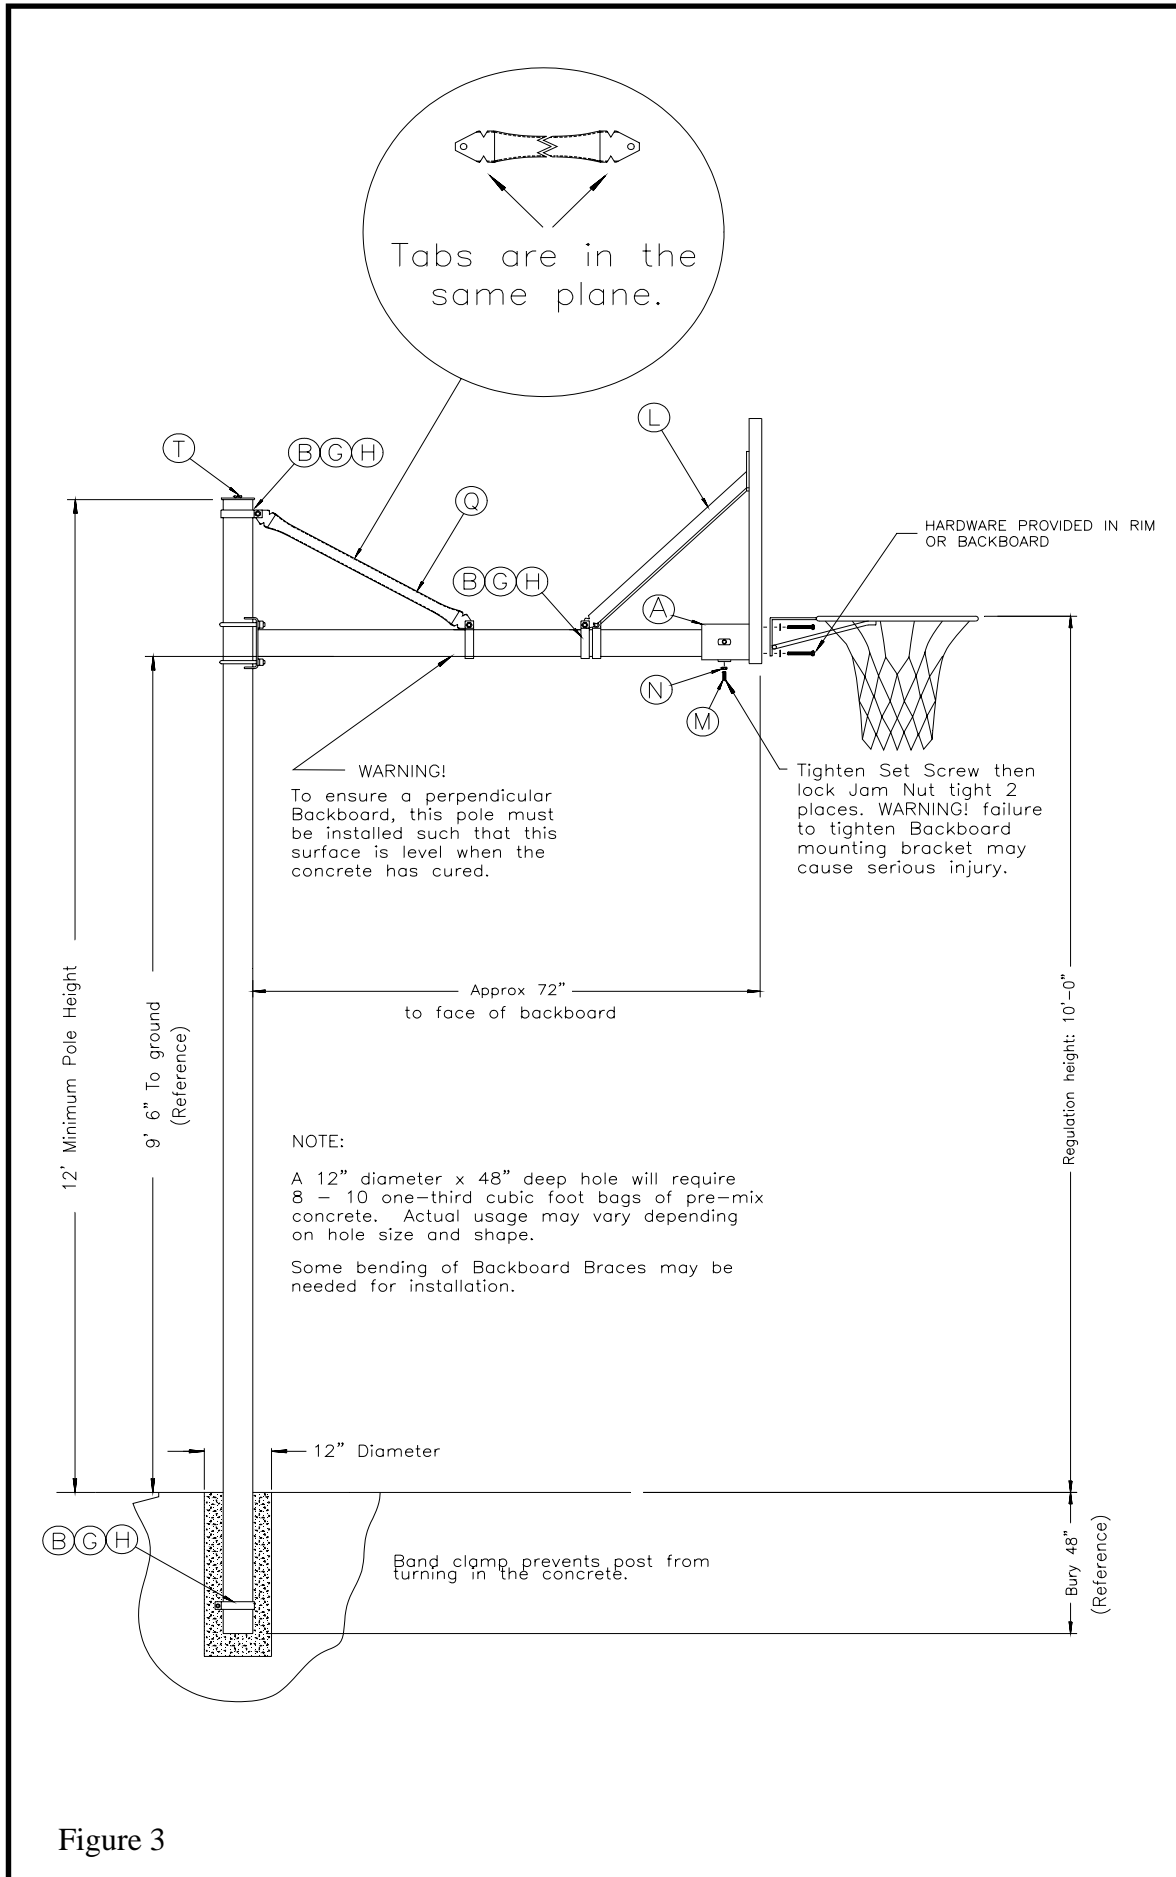

Figure 3
4. Clean excess concrete from *Pole* (R). Level the *Pole* (R) in the hole and allow the footing to cure for seven (7) days. Only after the concrete has cured for seven days should you proceed.
5. Seven days have passed. Insert the *Pole Plug* (T). **See Figure 3.** Secure the *Extension Arm* (S) to the *Pole* at a distance of 9' 6" from the bottom of the arm to the playing surface with the 5-9/16" *U-bolts and Hex Nuts* (P) and 1/2" *Lock Washers* (O). Fasten the *Extension Brace* (Q) to the *Extension Arm* (S) and the *Pole* (R) with (2) 5-9/16" *Band Clamps* (B). **See Figure 3.** Slide two 5-9/16" *Band Clamps* (B) over the *Extension Arm* (S).